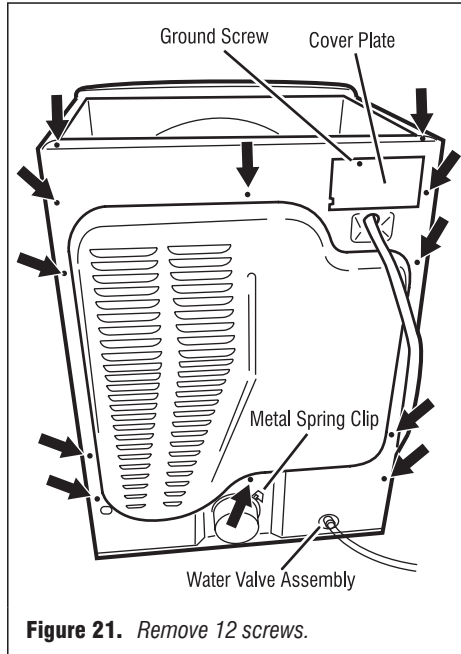

Figure 21. Remove 12 screws.
4. Remove the metal spring clip between the back panel and the exhaust outlet. See figure 21.
5. Remove the ten screws on the rear, and two screws on the top of the back panel. Pull the back panel off the machine. See figure 21.